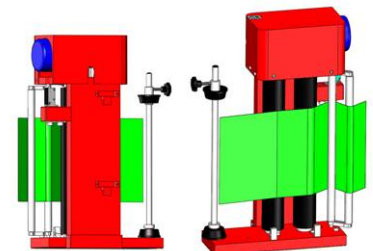

Fig. 3-3
Step 4 - Push down handle to open carriage door. Then pass the film through the carriage. Pass the film behind the first roller then between the first and second roller. (See Fig. 3-3)